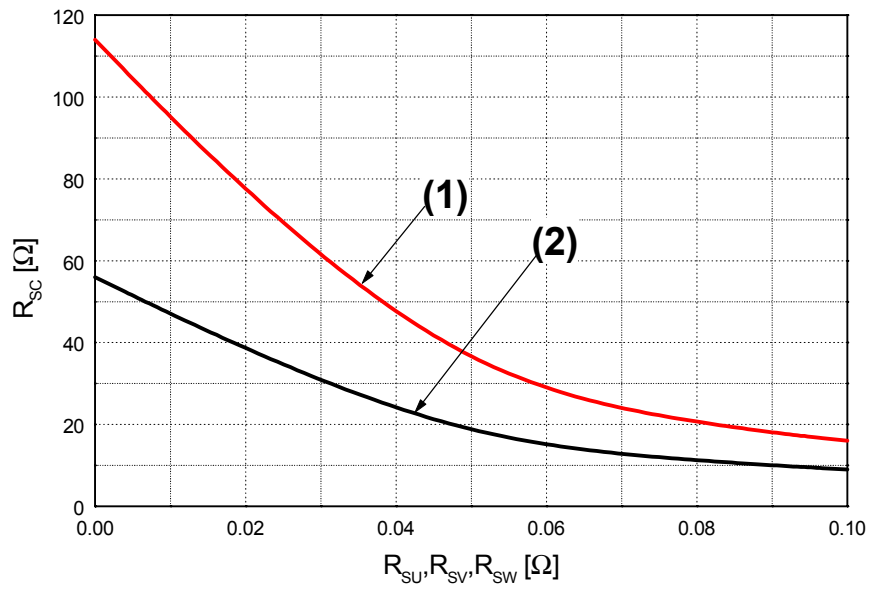

Fig. 6. R_{sc} Variation by change of Shunt Resistors (R_{SU} , R_{SV} , R_{SW}) for Short-Circuit Protection
- Short-circuit current protection is functioning only at the low-sides. It would be recommended that the value of the external sensing resistor (R_{SC}) should be selected around 56 Ω in order to make the SC trip-level of about 22.5A at the shunt resistors (R_{SU}, R_{SV}, R_{SW}) of 0Ω. For the detailed information about the relationship between the external sensing resistor (R_{SC}) and the shunt resistors (R_{SU}, R_{SV}, R_{SW}), please see Fig. 6.